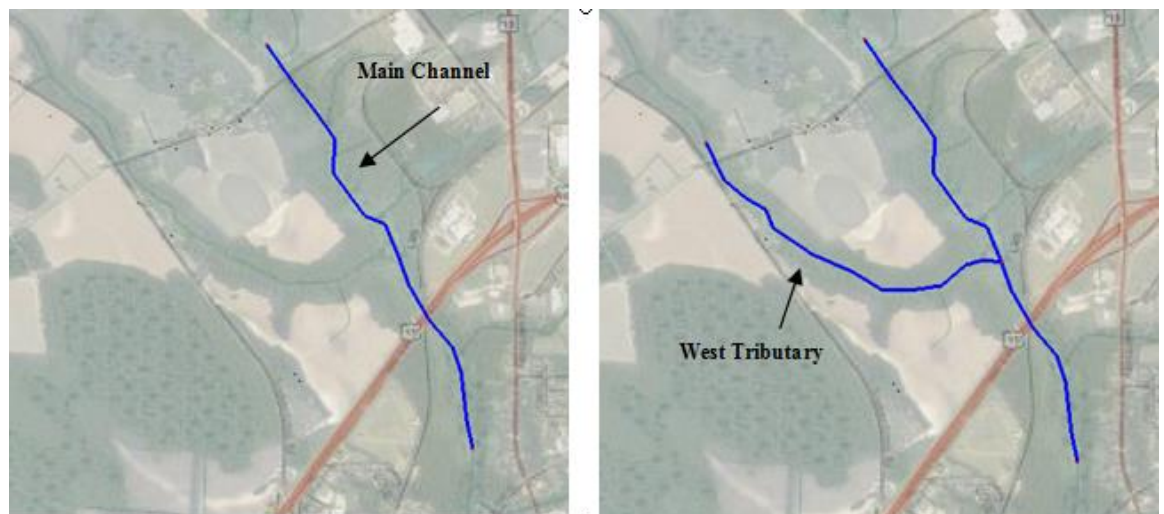

Figure 2 Creating Centerline arcs
3. Following the pattern in Figure 2, create the centerline of the main channel from upstream to downstream (HEC-RAS views a river in the upstream to downstream direction and it will ultimately help define the left bank and right bank characteristics) by clicking points on the centerline one at a time. Double-click the last point to indicate that it is the end of the centerline.